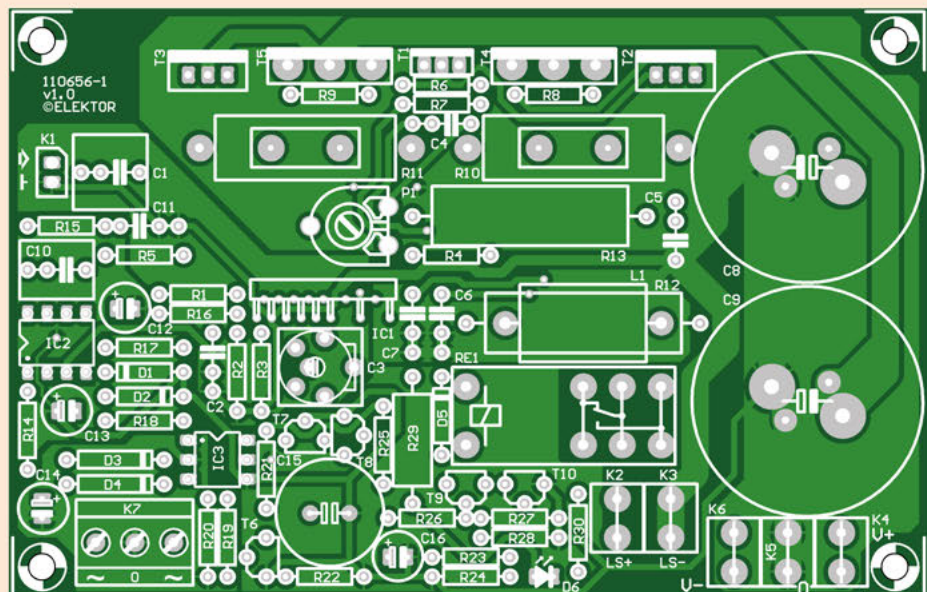

Figure 2.
**Figure 2** shows the circuit board layout designed for this amplifier. As promised by the title of this article, everything has been kept nice and compact.